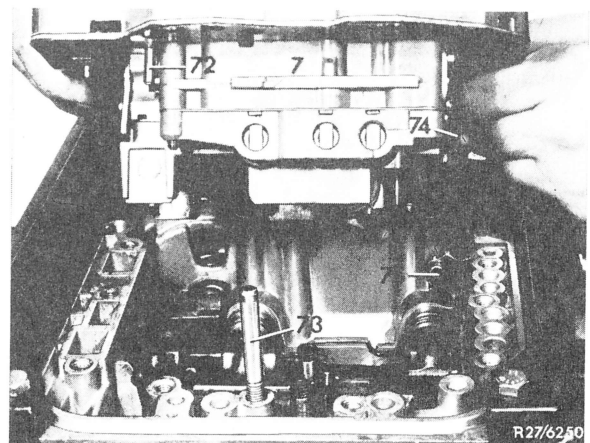
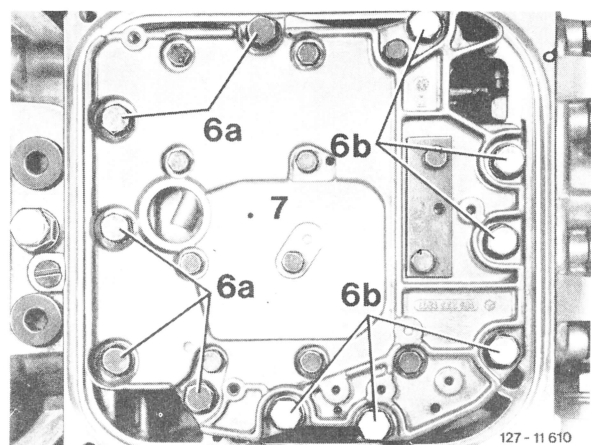

Fig. 77
Fig. 78
**100** Move range selector lever between position "P" and "R". Insert locating pin for control pressure valve (72) into shift valve housing and screw two studs M 8 x 50 (73) into transmission case (Fig. 77).
**101** Carefully introduce shift valve housing into transmission case. Make particularly sure that the range selector valve (74) enters the range selector lever (75) (Fig. 77).
**102** Unscrew stud (73) (Fig. 77). Screw-in fastening bolts (6) with spring washers and tighten to 13 Nm (1.3 kpm) (Fig. 78).
**Attention!** Watch out for different length of fastening bolts (Fig. 78). Bolts item 6 a M 8 x 25, bolts item 6 b M 8 x 30.